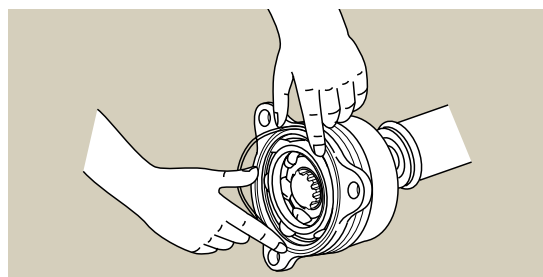

Fig. 4
- For a coupling type, fit the O-ring to a correct position, being careful not to damage it (see **Fig. 4**).